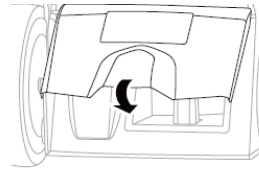

Fig .8D
3. Lower the rear cover again. (Fig.8D)